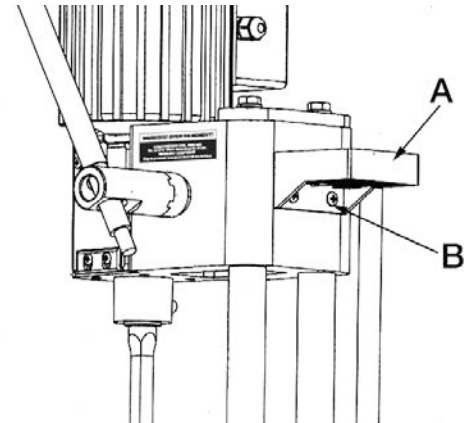

FIGURE 8
Assemble the chisel & hex. key holder (A) Fig.8 to the rear of the head using two screws (B). Store your chisels and hex. keys in this holder when they are not in use.